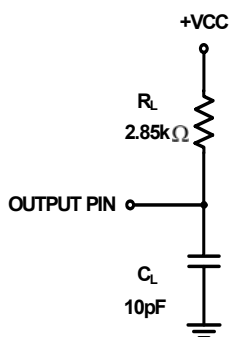

FIGURE 4. EQUIVALENT LOAD CIRCUIT
11. During characterization, t_{DIS} is measured from the release point with a 10pF load (see Figure 4) and the equivalent timing using the ADS1286 loading (3k Ω , 100pF) is calculated.